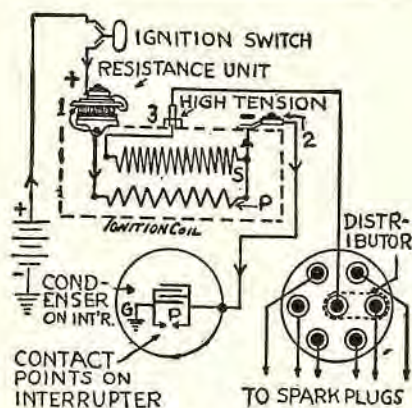

Fig. 2A. Circuit when using coil shown in Fig. 2.
The primary circuit (Fig. 2A) runs from (+) of battery, to the ignition switch, to the resistance unit (1), through the primary winding (P), to the terminal